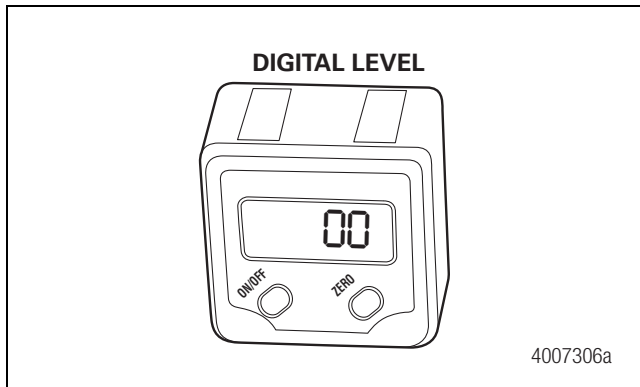

Figure 2.27
- Set vertical alignment using a digital level. Figure 2.27. Set the digital level flat on the tool reference surface of the sensor and press ZERO to set the level to 0.0 degrees. The tool reference surface must be level with the surface under the vehicle tires. (One source for a digital level is <http://www.wixey.com/anglegauge/index.html>: Model Wixey WR 300.)